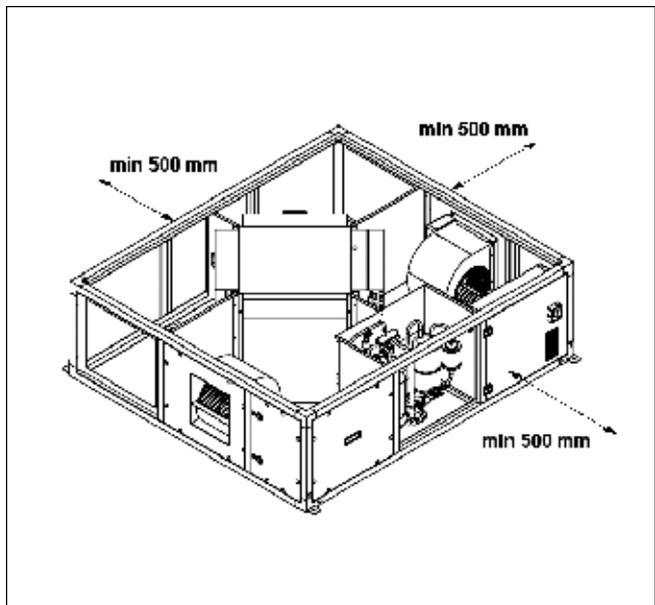

Figure 2
- Leave a gap space of min 500 mm (see fig. 2) between the unit side and the closest obstacles, according to the unit configuration